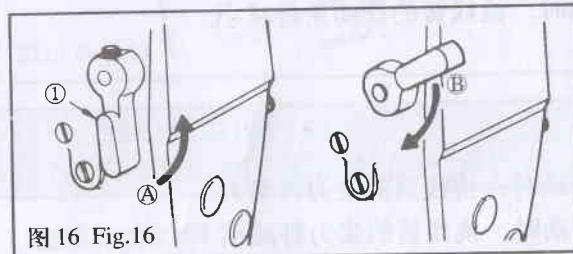

图 16 Fig.16
- 1) Loosen setscrew ②, and take out tension asm ⑤.
- 2) Loosen setscrew ④, and remove tension post ③.
- 3) As you turn tension post ③ clockwise (in direction A), the pressure will be increased.
10. 压脚板手(图 16)
10. HAND LIFTER (Fig.16)